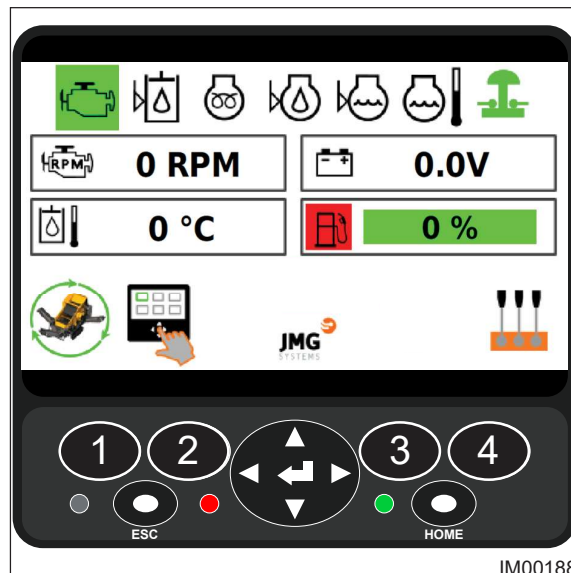

Fig: 8.1 - Home Screen
4. On the Home Screen (Fig: 8.1), press the machine operating button (Item 1).